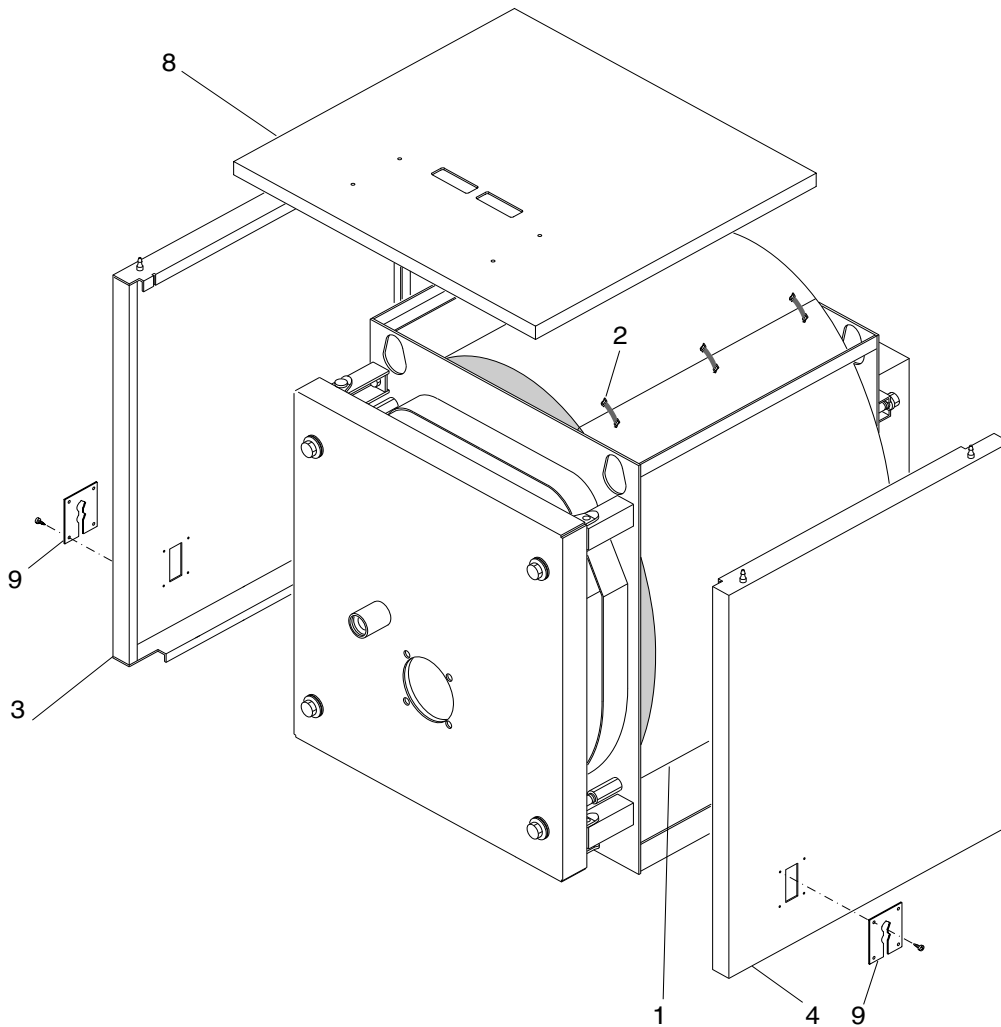

fig. 24
**N.B.** For models from **TST 3G 65 2S** to **TST 3G 85 2S** (ref. fig. 24 and 25), the casing and insulation are contained in 1 box marked:
### Assembly sequence (Ref. fig. 24, 25)